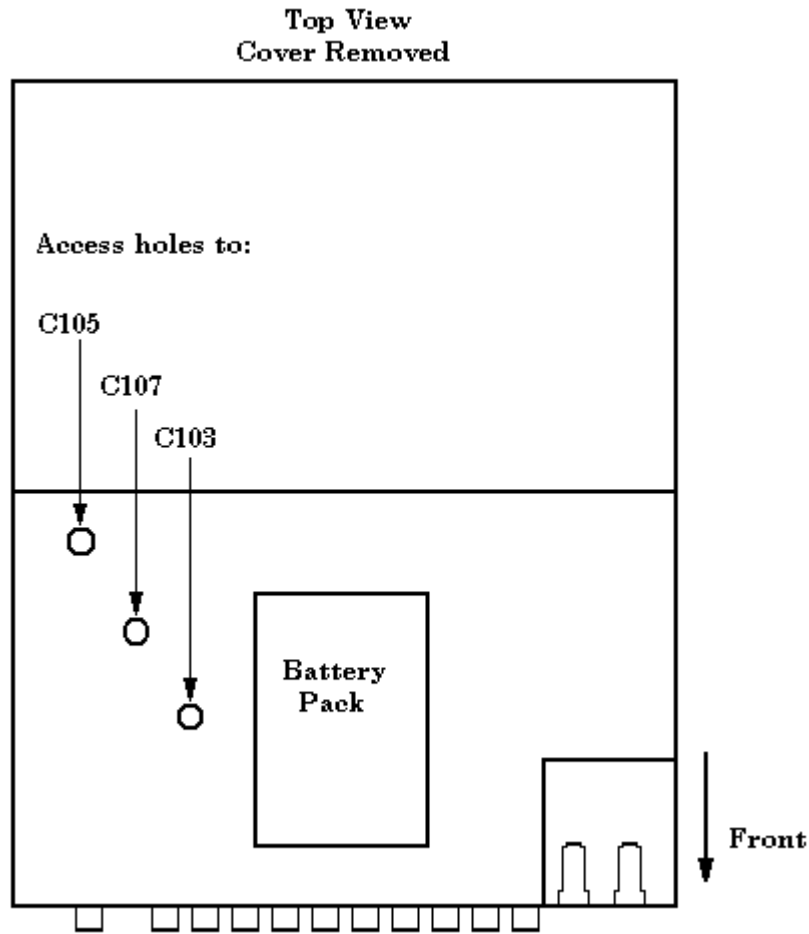

Figure 1. Adjustment locations.
- (25) Press TI **1000** range pushbutton (in position).
- (26) Connect calibrator **OUTPUT HI** to TI **INPUT HI** and calibrator **OUTPUT LO** to TI **INPUT LO**.
- (27) Set calibrator for an output of 500.00 V at a frequency of 500 Hz.
- (28) Press TI **REL** pushbutton and ensure TI **REL** annunciator is displayed.
- (29) Change calibrator output to 500.00 V at a frequency of 20 k Hz.
- (30) Adjust C103 (fig. 1) for a display of  $0000.00 \pm 150$  counts (R).
- (31) Set calibrator output to minimum.
- (32) Press TI **REL** pushbutton and ensure TI **REL** annunciator is off.
- (33) Press TI **200** range pushbutton (in position).
- (34) Set calibrator for an output of 100.00 V at a frequency of 500 Hz.
- (35) Press TI **REL** pushbutton and ensure TI **REL** annunciator is displayed.
- (36) Change calibrator output to 100.00 V at a frequency of 20 k Hz.
- (37) Adjust C105 (fig. 1) for a display of  $000.000 \pm 200$  counts (R).
- (38) Set calibrator output to minimum.
- (39) Press TI **REL** pushbutton and ensure TI **REL** annunciator is off.
- (40) Press TI **20** range pushbutton (in position).
- (41) Set calibrator for an output of 10.00 V at a frequency of 500 Hz.
- (42) Press TI **REL** pushbutton and ensure TI **REL** annunciator is displayed.
- (43) Change calibrator output to 10.00 V at a frequency of 20 k Hz.
- (44) Adjust C107 (fig. 1) for a display of  $00.0000 \pm 200$  counts (R).
- (45) Set calibrator output to minimum and disconnect equipment setup.
- (46) Press TI **REL** pushbutton and ensure TI **REL** annunciator is off.